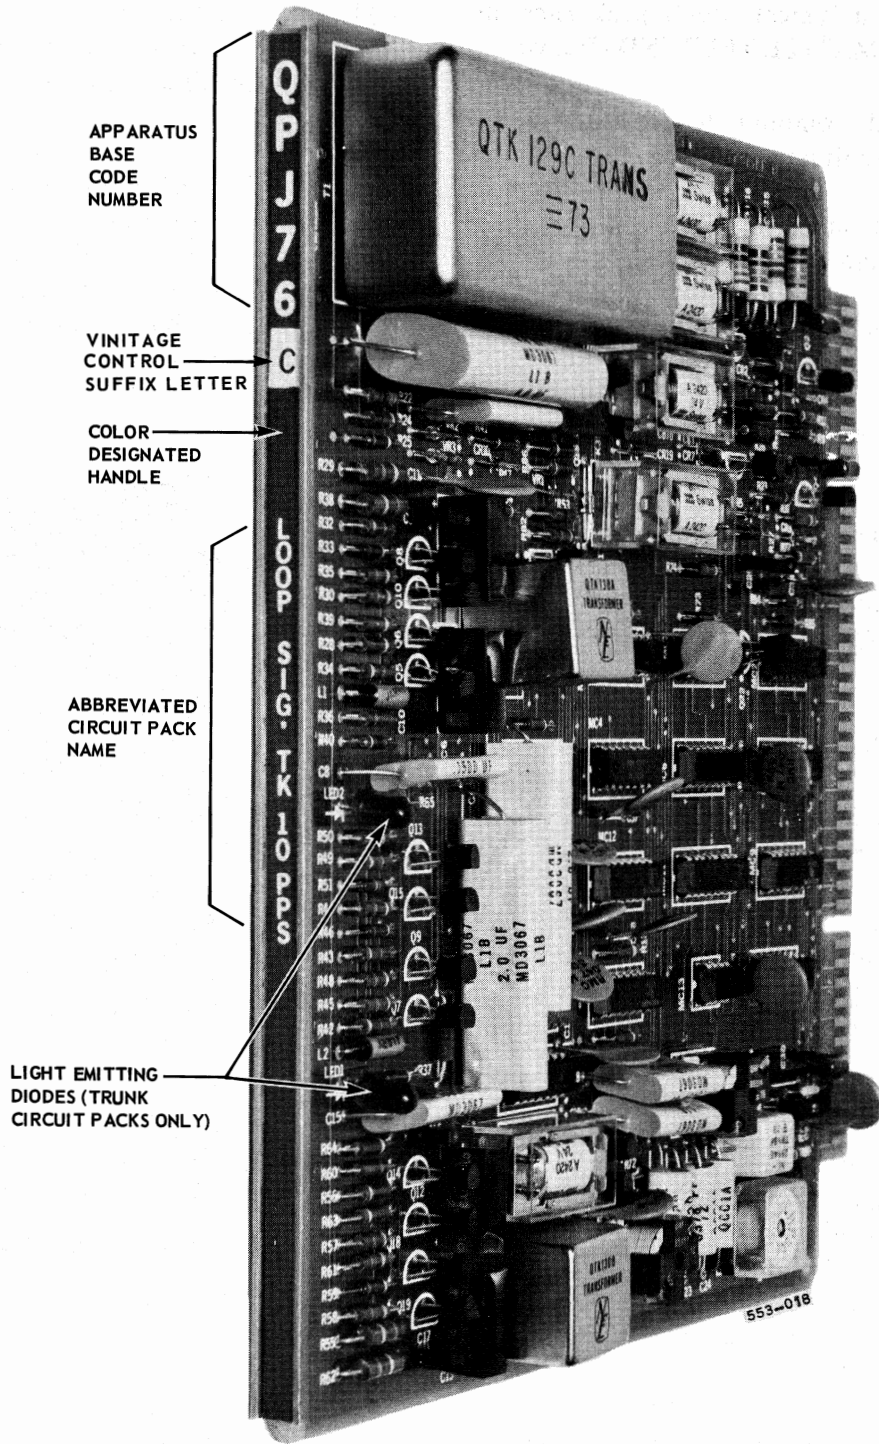

Fig. 7 – Typical PULSE 120 EPABX Circuit Pack
- 3.23 The printed wiring boards used for circuit packs are fiberglass sheets measuring 8 inches (20 cm) wide by 9 inches (23 cm) high, which may have wiring patterns printed on one or both sides. A typical circuit pack is shown in Fig. 7.